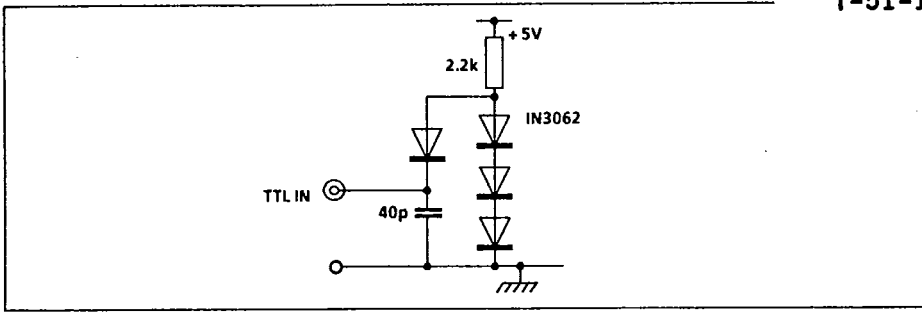

Fig.7 Equivalent TTL test load
2. See Fig.7 for equivalent TTL load.